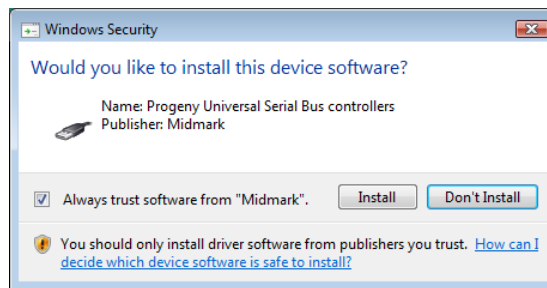

Figure 5: Enable Midmark software installation
- The dialog box shown on Figure 5 may appear when Progeny Device Suite is installed in Windows Vista and Windows 7 environments. Select 'Always trust software from Midmark' check box and click on the Install button.